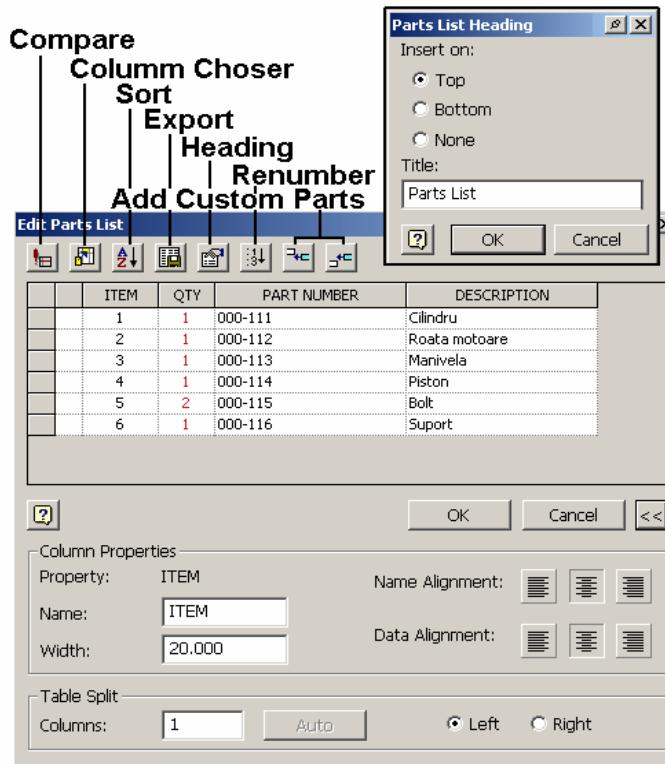

Figura 5.9.5.
- apare fereastra **Edit Parts List**, figura 5.9.5;